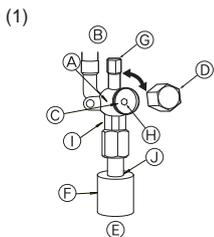
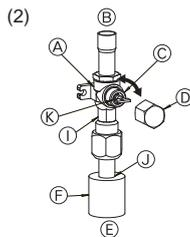

Fig. 4-6
Fig. 4-7
- (1) Liquid side of stop valve (Fig. 4-6)
- ① Remove the cap and turn the valve rod counterclockwise as far as it will go with the use of a 4 mm hexagonal wrench. Stop turning when it hits the stopper. (Approximately 10 revolutions)
- ② Make sure that the stop valve is open completely and rotate the cap back to its original position.
- (2) Gas side of stop valve (Fig. 4-7)
- ① Remove the cap, pull the handle toward you and rotate 1/4 turn in a counterclockwise direction to open.
- ② Make sure that the stop valve is open completely, push in the handle and rotate the cap back to its original position.